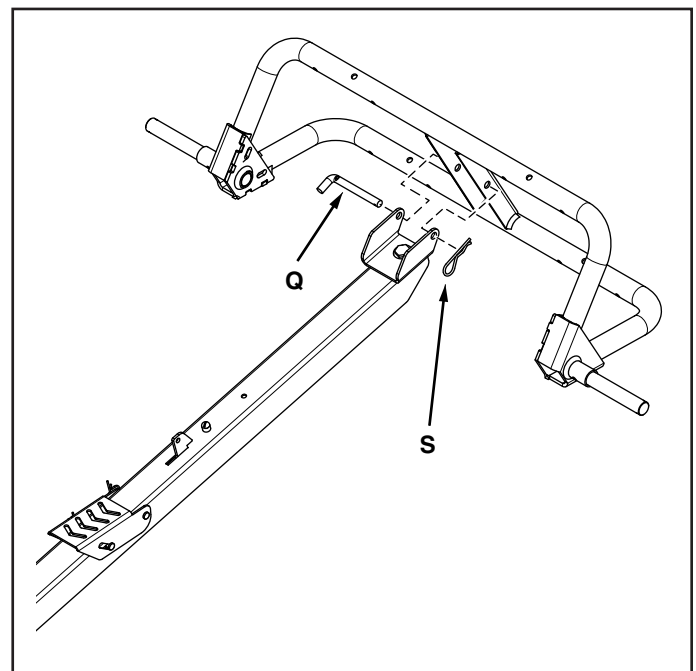

FIGURE 7
STEP 7: (SEE FIGURE 7)
1. Attach the tongue assembly to the wheel support using the channel pivot pin (Q) and a 3/32" hair cotter pin (S).